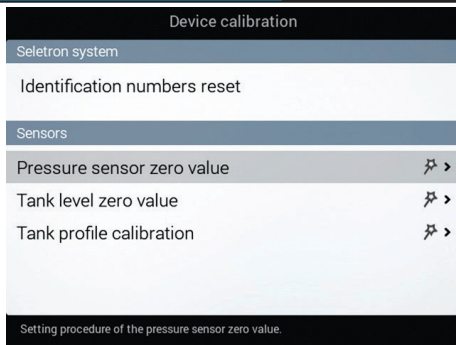

Fig. 118
- 1 Select **Pressure sensor zero value** (Fig. 118) and press **OK**.